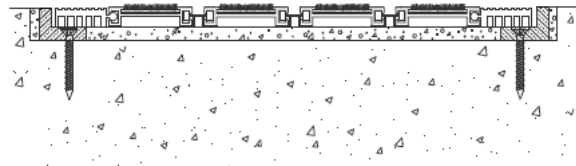

Figure 9
STEP 17. After the mat has relaxed, place the mat into its installed position in the frame (see Figure 9). Ensure that the mat is centered in the frame and that it is level, plumb, flush, flat and properly oriented. If the mat is provided in sections, place each mat section into its installed position, splicing mating sections of the mat together. Ensure that the mat sections are level, plumb, flush, flat, properly oriented and properly aligned and that each mat section is in the position established for it and illustrated in the details. The mat sections are assigned a letter designation, which is marked on the mat sections, to ensure proper placement.